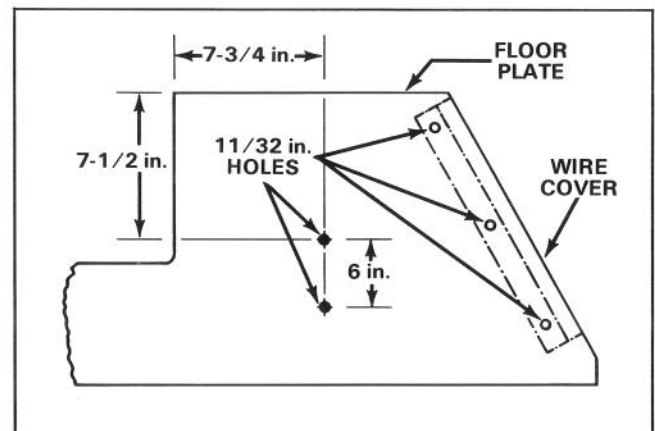

Figure 2
1. Measure  $7-3/4$  in. away from the floor plate edge adjoining the right side of the steering tower and scribe a line parallel to the side of the steering cover (Fig. 2).
2. From the front edge of the floor plate, measure  $7-1/2$  in. rearward on the  $7-3/4$  in. mark and center punch the location (Fig. 2).
3. Measure 6 in. further rearward from the original punch mark and center punch again (Fig. 2).
6. Insert  $5/16 \times 5/8$  in. flange head screws (2) into horn mounting holes in floorboard, mount horn bracket onto screws and secure to bottom of the floorboard with flange locknuts.
1. Lay the wire cover on the floor plate and butt it against the right side of the main frame (Fig. 2).
2. Center punch each mounting hole and drill an 11/32 in. hole at each location (Fig. 2).